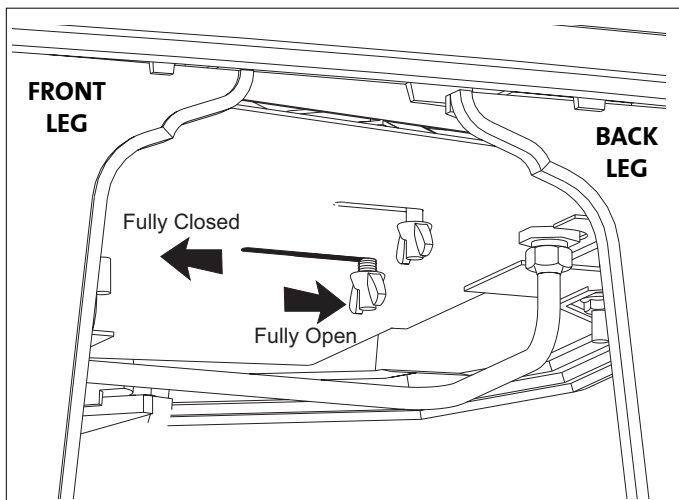

Figure 6. Adjusting the Air Inlet Restrictor plate - View is from the right side of the stove.
This plate is located at the rear of the firebox behind the burner plate. It is set in a **CLOSED** position at the factory and should be left there for most vent configurations. It should be opened only for snorkel terminations and some short run horizontal terminations as specified on the following pages. To adjust the Air Restrictor to the **OPEN** position, locate and loosen the wing nut under the burner and push it back as far as it will go. See Fig. 6.
- **THE AIR INLET RESTRICTOR MUST BE SET FULLY OPEN FOR ANY SNORKEL TERMINATION.** See Fig. 6, pg. 9.